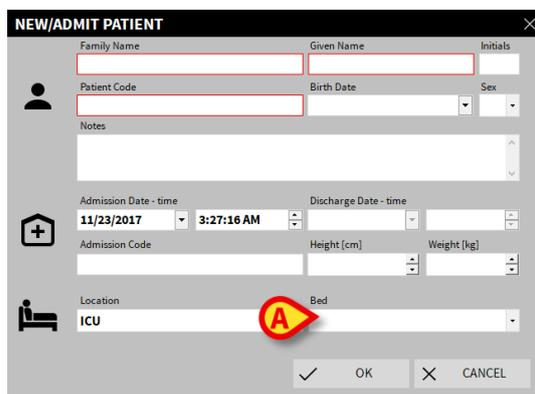

Fig 102
The **New/Admit Patient** window, containing the available patient data will be displayed (Fig 102).
- Specify the bed number in the field indicated in Fig 102 **A**